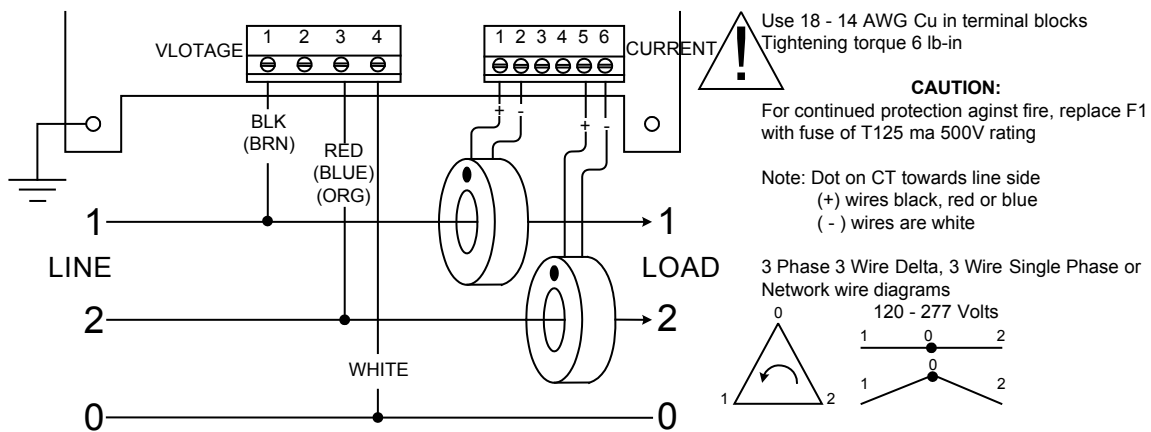

Figure 3 Wiring Diagram for a **3-Phase 3-Wire Delta, Single Phase 3 Wire & Network Service**
Wire Wye or 4 Wire Delta service and Figure 3 for a 3 Phase 3 Wire Service.
- c) Using the wiring diagram found on the inside of the meter cover, make the appropriate voltage and current lead connections. Refer to Figure 3 for a wiring diagram for a 3-Phase 4-Wire Wye or Delta service and Figure 4 for a 3-Phase 3-Wire Delta service.